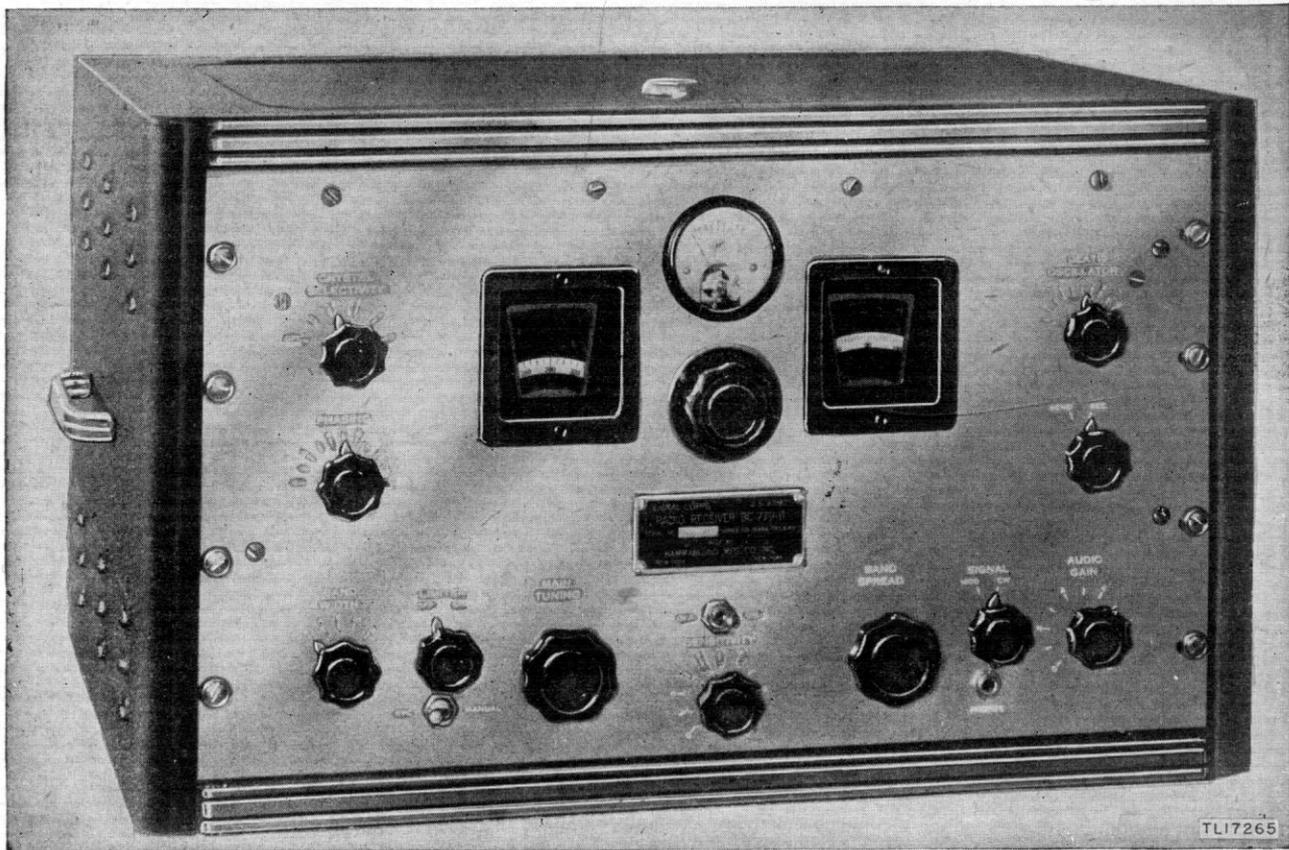
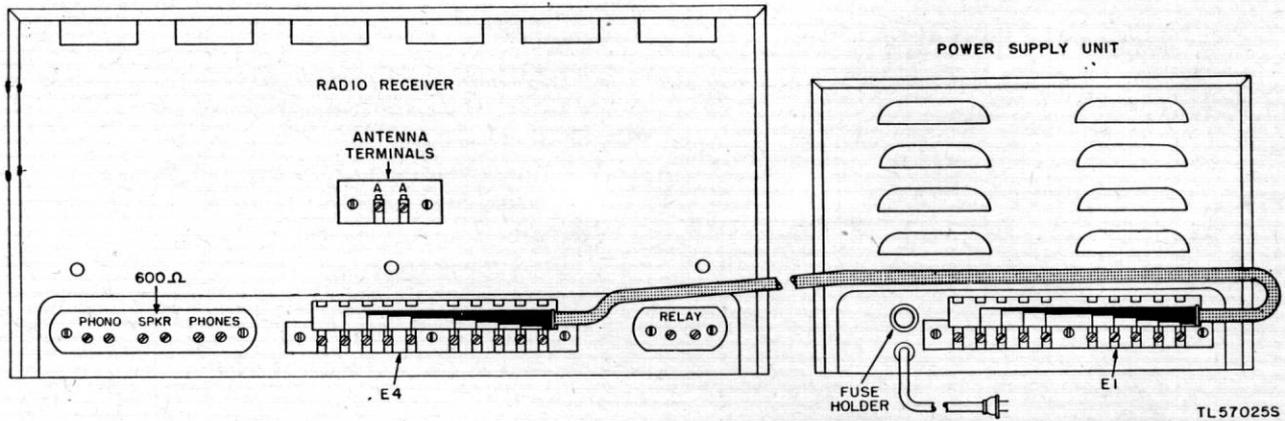
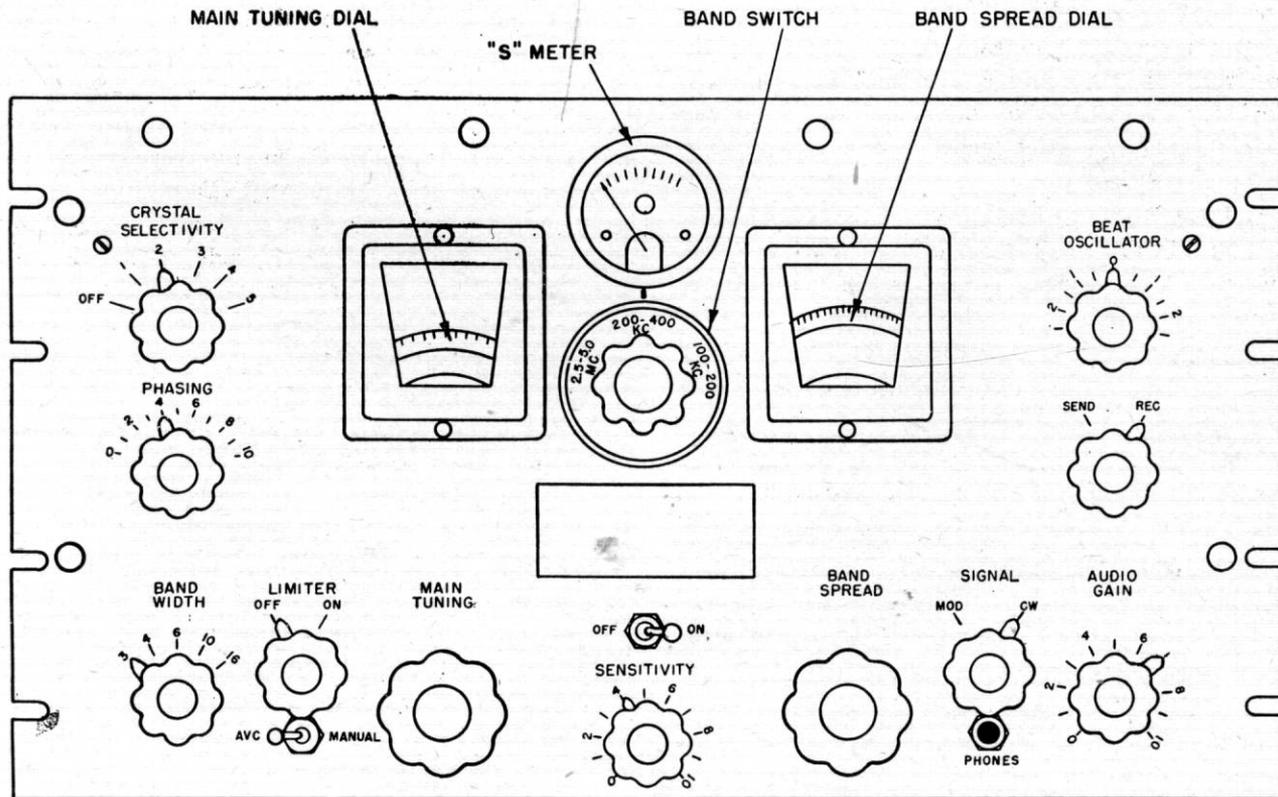

Figure 6. Radio Receiver BC-779-B in Cabinet CH-104-A.
Figure 10. Cable connections for a-c operation.
Figure 15. Radio Receiver BC-779-B, front panel.
in Cabinet CH-104-A (fig. 6). The under side of the receiver chassis is equipped with a steel cover plate which has heavy, felt-covered feet in the corners. The rear of the chassis (fig. 10) is provided with a terminal strip which is used in making connection either to the power supply unit or to batteries. The S meter located at the top center of the receiver panel is not supplied with Radio Receiver BC-1004-D.
- (1) Remove the sheet metal covers from the terminal strip E4 on the rear of the receiver and from the terminal strip E1 on the power supply unit.
- (2) Make sure that all 10 screws on each strip are unscrewed at least three turns.
- (3) Attach one end of the connector cable to each terminal *exactly* as shown in figure 10 and
*d. EARPHONES.* Insert the plug of Headset HS-30 (or any other available headphone) into the PHONES jack (fig. 15), or connect it to the screw terminals marked PHONES on the rear of the chassis (fig. 10). No matching transformer is necessary.
#### 15. Receiver Controls (fig. 15)
*o.* SEND-RECEIVE SWITCH. This switch is provided for use when the receiver is used with an associated transmitter. The receiver is silenced when the switch is in the SEND position. This position allows the receiver to remain ready for instant use. The RELAY terminals at the rear of the receiver (fig. 10) are for convenience in connecting a relay to disconnect automatically the receiver in preference to operating the SEND-REC switch.
*q.* SPKR TERMINALS. These terminals on the rear of the receiver (fig. 10) are provided so that a permanent magnet type loudspeaker may be connected to the output of the receiver.